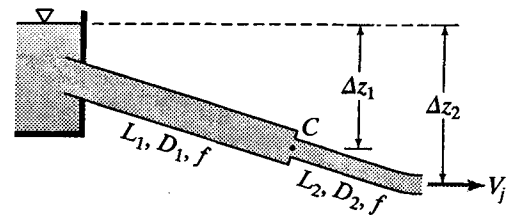

Figure P8.92
- 8.92 A pipeline 900 ft long discharges freely at a point 200 ft lower than the water surface at intake (Fig. P8.92). The pipe intake projects into the reservoir. The first 600 ft is of 10-in-diameter, and the remaining 300 ft is of 6-in diameter. (a) Find the rate of discharge, assuming  $f = 0.06$ . If the junction point  $C$  of the two sizes of pipe is 150 ft below the intake water surface level, find the pressure head (b) just upstream of  $C$  and (c) just downstream of  $C$ . Assume a sudden contraction at  $C$ .